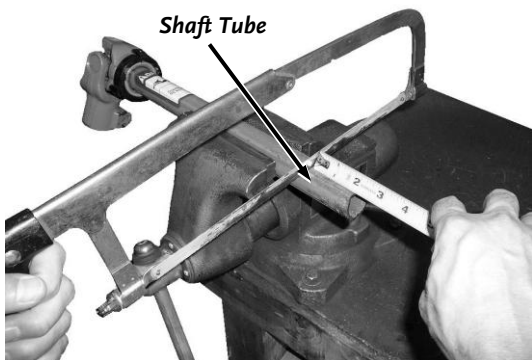

Figure 16
4. Measure and cut each Shaft Tubes to the required length using the hacksaw (**Figure 16**).